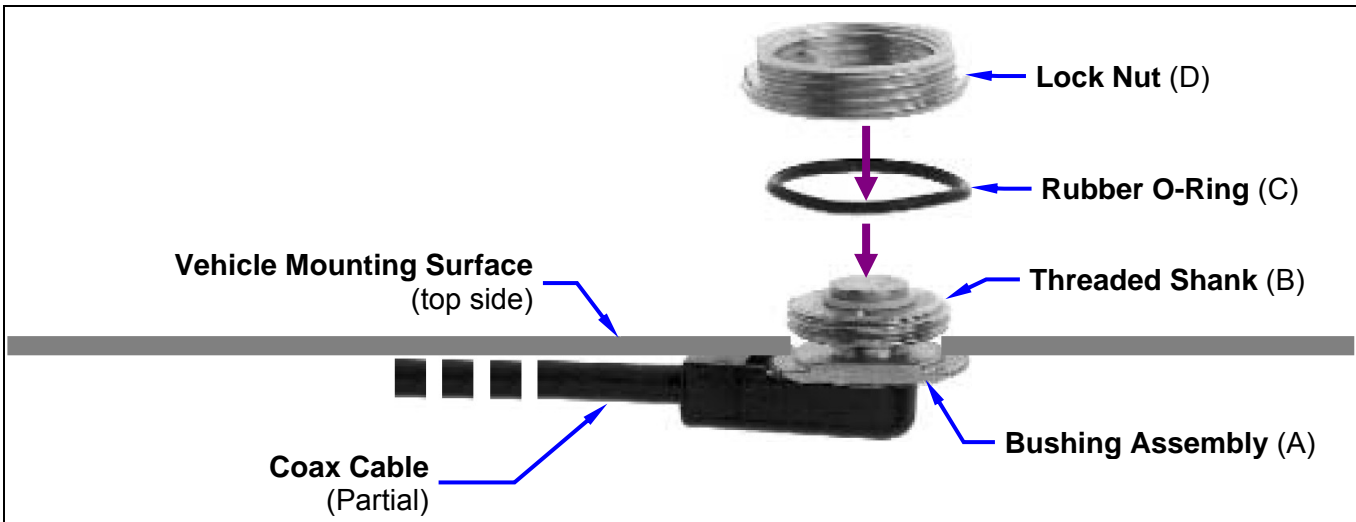
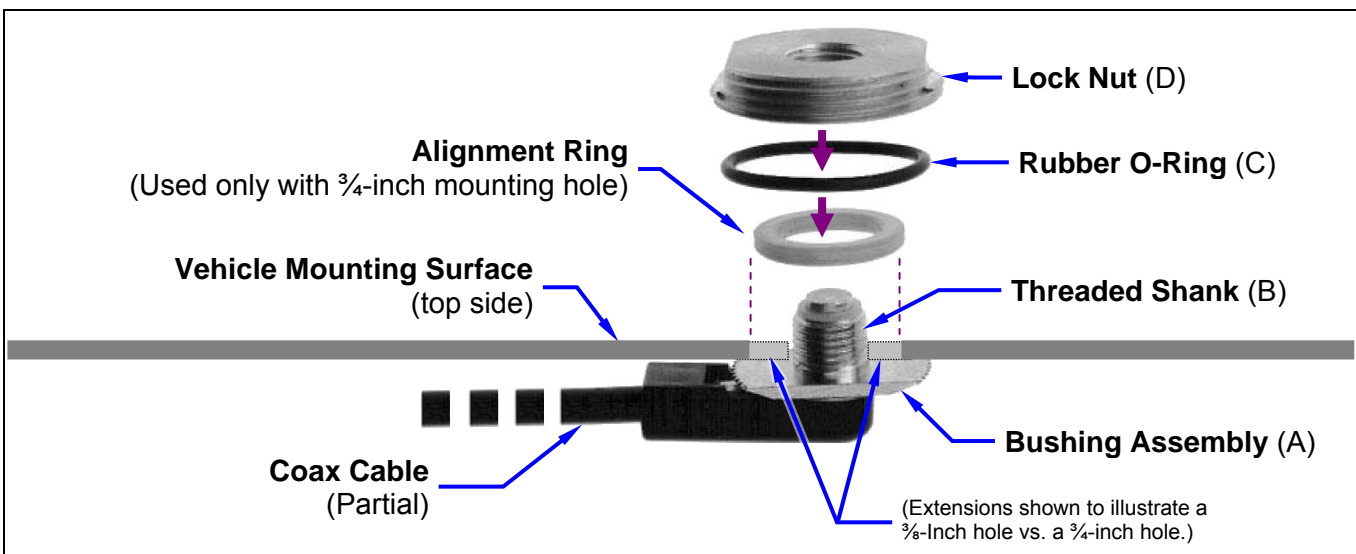

Figure 6-2: Installing Standard 3/4-Inch NMO Antenna Mount AN-125001-002
Figure 6-3: Installing Thick-Roof NMO Antenna Mount AN-125001-004
11. As illustrated in Figure 6-2 and Figure 6-3, add the O-ring (C) and lock nut (D) to the top of the mount's bushing assembly (A). With the O-ring in the groove in the underside of the lock nut, thread the lock nut onto the bushing assembly. Be sure the O-ring remains in the groove before tightening the lock nut.
2. Place the gasket included with the antenna element (not pictured in Figure 6-2 or Figure 6-3) around the mount and against the surface of the vehicle. If a lubricant or sealant was included with the gasket, apply it to the gasket before placing the gasket.